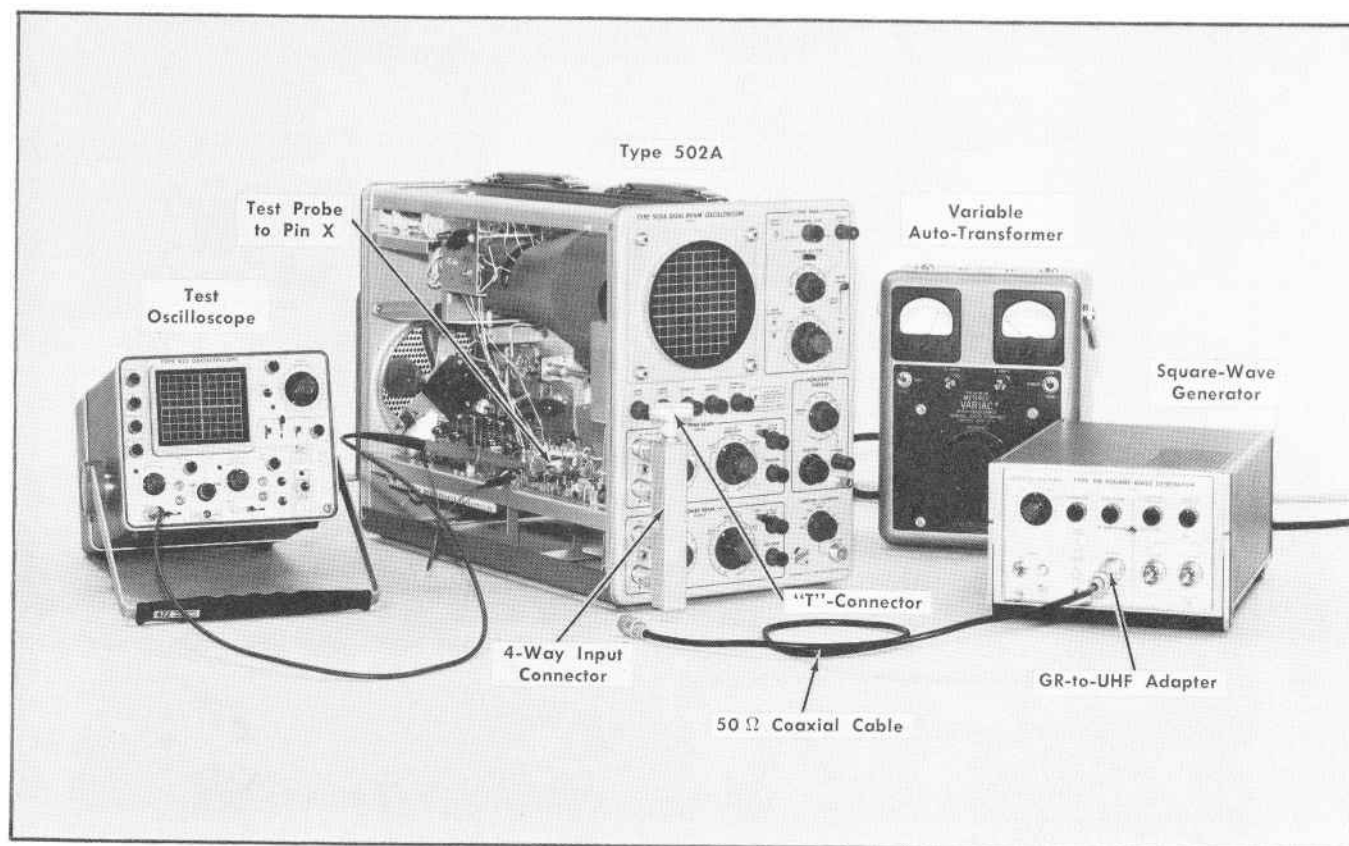

Fig. 6-29. Test equipment setup for adjusting trigger output (step 31).
31. Adjust Level and Compensation of Trigger Output and Vertical Signal Output ①
a. Set up the equipment as shown in Fig. 6-29. (Do not connect the square-wave signal to the Type 502A until step (e) below.)